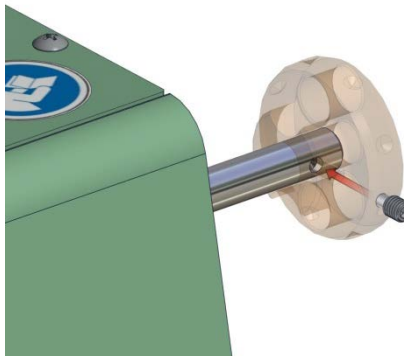

Figure 4.8.5
5. Install the Rotary Disk Set Screw into its proper location on the Spindle shaft (threaded hole where the existing Rotary Handle Set Screw was located). See Figure 4.8.5 below.